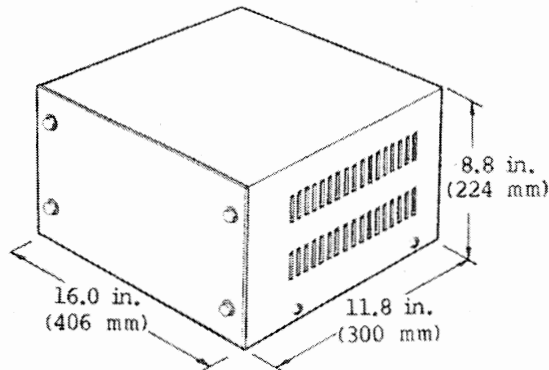

FIGURE 1
01.11 Designed for table-top or wall mounting, the STRATA VI MKSU is housed in a single metal cabinet (Figure 1) with the following dimensions: